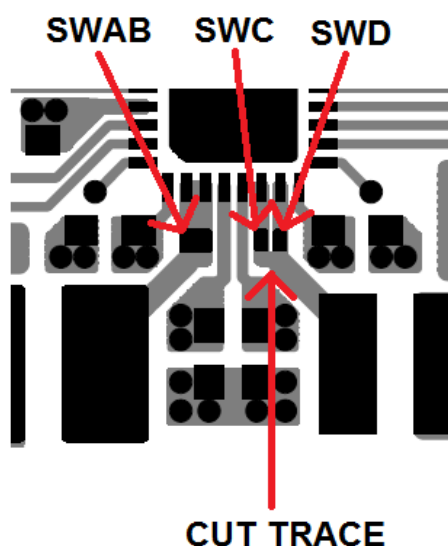
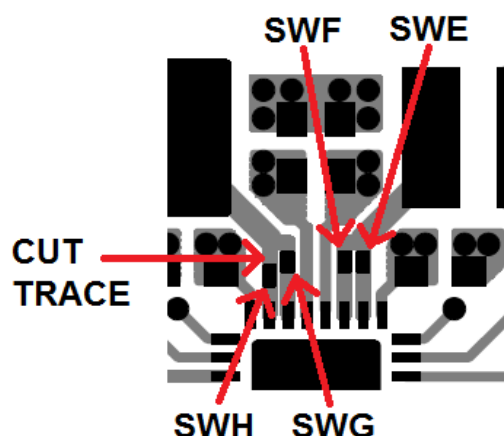

Figure 5. Cut SWC and SWD connection near pins
Figure 6. Cut SWH trace between L4 and SWH pin
- Any switch node associated with a V_{IN} trace that was cut will also need to be cut. The SWC/SWD traces and SWD/SWF traces can be cut in between to pads near the SW pins as shown in Figure 5. The SWG/SWH traces only need to be cut for the “4112” configuration. SWH needs to be cut between the SWH pin and L4 as shown in Figure 6.
- All switch nodes of adjoining power stages will need to be connected together. Each power stage has a pad to solder a small bus wire, 28AWG. The switch node pads are also shown in Figure 5 and Figure 6. Carefully solder a bus wire as short as possible between adjoining power stages.